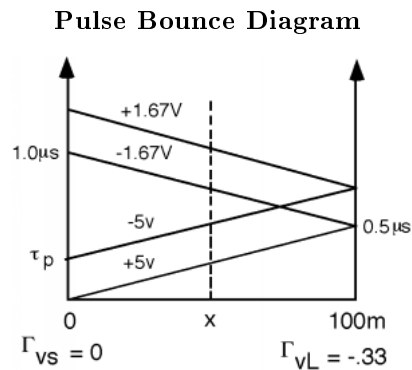

Figure 5.32
We draw the bounce diagram (Figure 5.32: Pulse Bounce Diagram), and launch **two waves**, one which leaves at $t = 0$ has an amplitude of $V_1^+ = 5 (V)$. The second wave leaves at a time τ_p , later, and has an amplitude of $-5V$.